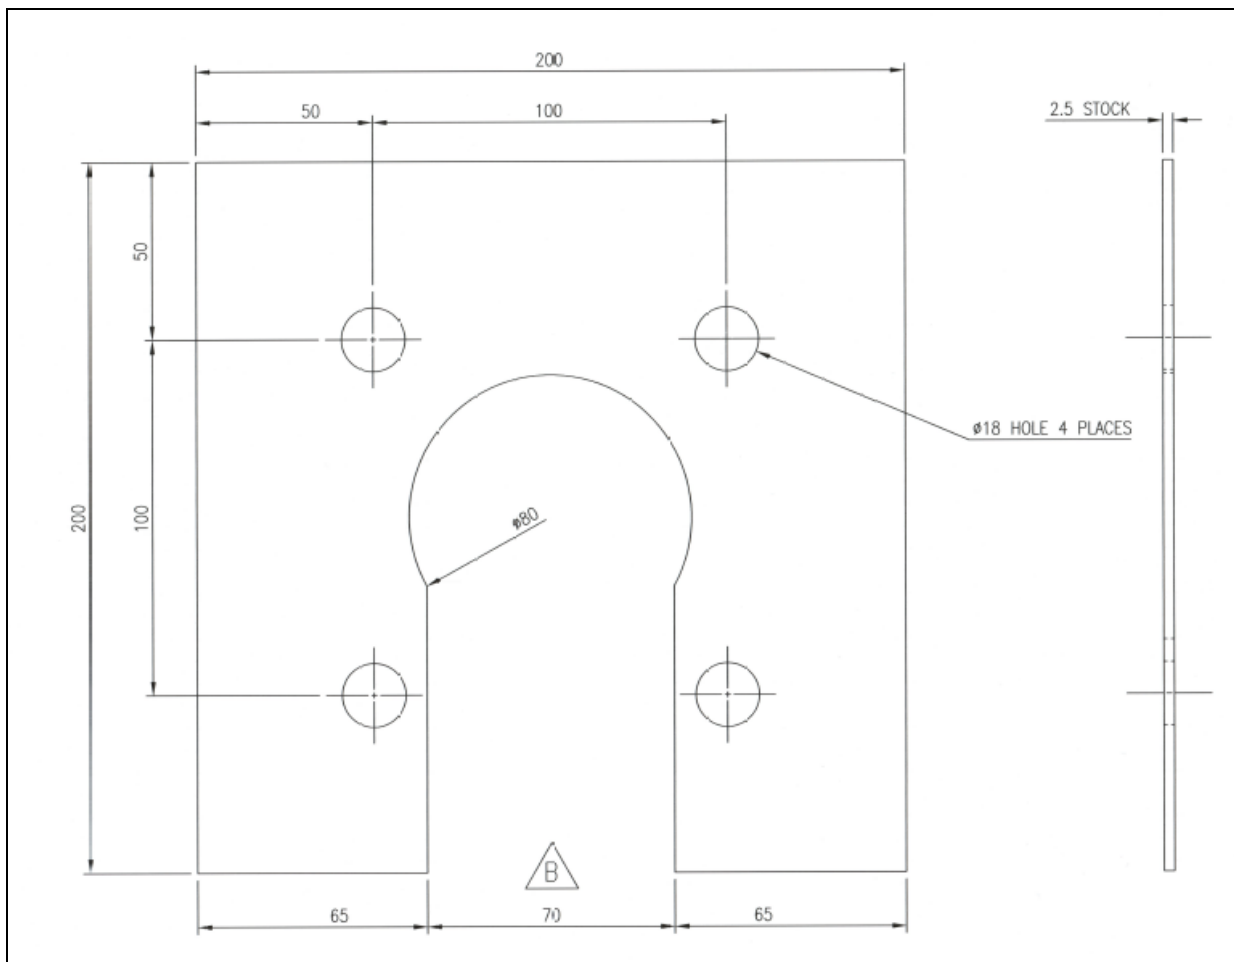

Figure 1: Breathable Gasket (Correct Orientation)
This Customer Notice is directed to customers who currently own or are in custody of affected IP-2 ISO TC01, IP-2 ISO TC03, or IP-2 ISO TC08 designs (see referenced Customer Notices for detail of affected containers). It communicates the requirements and method for fitting breathable gaskets (see Figure 1) to the aforementioned containers in order to mitigate against potential water ingress.
3. Check all breathable gaskets for any defects or damage (see Figure 1). If replacement breathable gaskets are required, contact LLWR via the transportandlogistics@llwrsite.com mailbox.
6. Locate the breathable gasket with the slot opening orientated downwards (as pictured in Figure 1) against the vent port flange so that on a TC01 or TC03 its boltholes align with the vent port flange boltholes, or, on the TC08, it locates on the vent port flange studs.